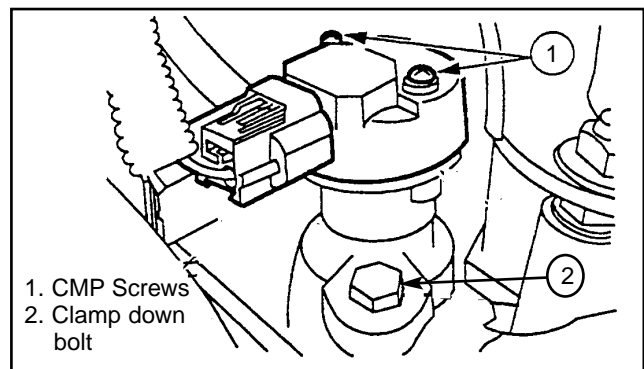

FIG. 13. - CMP and Synchroniser
**CAMSHAFT POSITION SENSOR AND SYNCHRONISER (Figs. 13, 14, & 15.)**